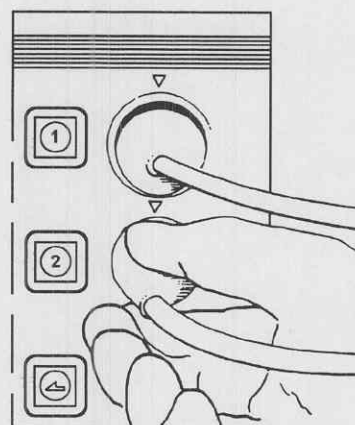

Figure 2-8. Handpiece connection.
b. Push inward on the handpiece connector until it is firmly seated. Refer to figure 2-8.